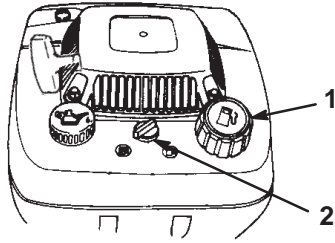

Figure 5
1. Clean around the fuel tank cap (Fig. 5).
2. Open the fuel valve (Fig. 5).